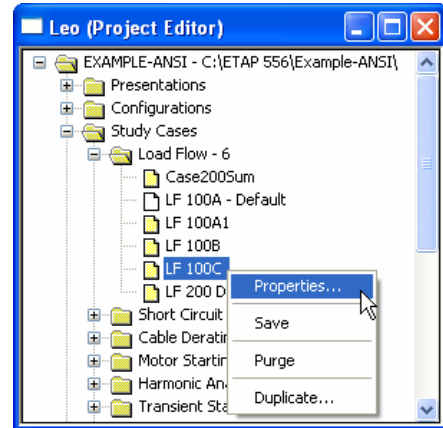

Fig. 4
- (c) Expand the study type folder (e.g. Load Flow) and right-click the Study Case you wish to rename and select the “Properties...” pop-up command. In this exercise, do the said actions to “LF-100C”. See Fig. 4.